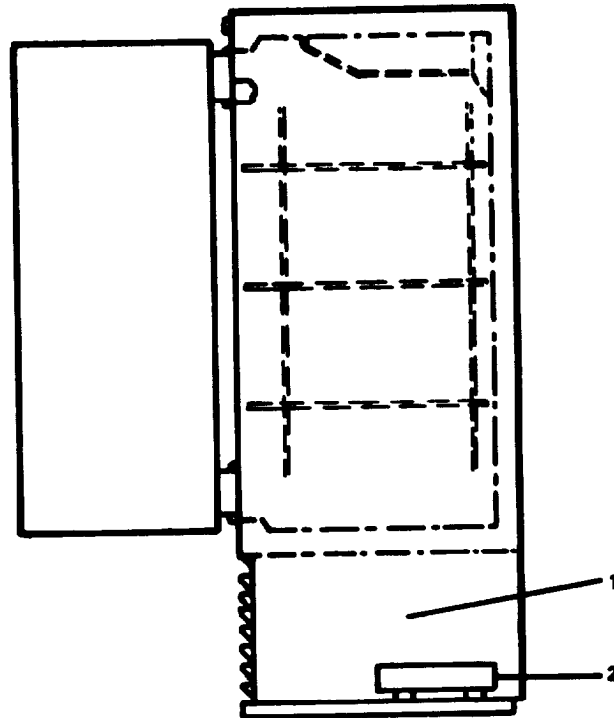

FIGURE 2-64. R-30 Mechanical Refrigerator/Freezer.
2-76. Replace/Repair R-30 Mechanical Food Refrigerator. (FIGURE 2-64)
Repair at this level of maintenance is by replacement of mechanical food freezer condenser (2, FIGURE 2-64) and evaporator coil (1) units. Refer to paragraphs 2-80 and 2-81, respectively.